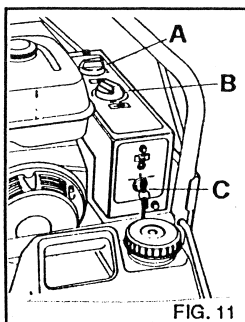

FIG. 11
CONTROL PANEL (fig. 11)
- 3) Start petrol engine by means of the proper switch (fig. 11). It is also possible to start the engine by means of the self-winding cord.